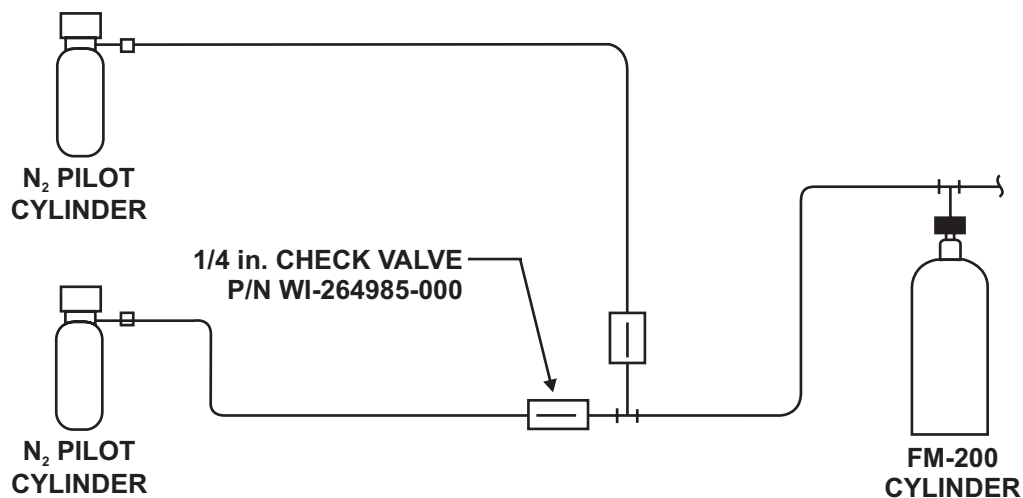

Figure 4-14. Multiple Pilot Nitrogen Actuation Cylinders
- 1/4 in. check valves (P/N 264985) shall be installed at the intersection of each pilot line to the main actuator line (see Figure 4-14).